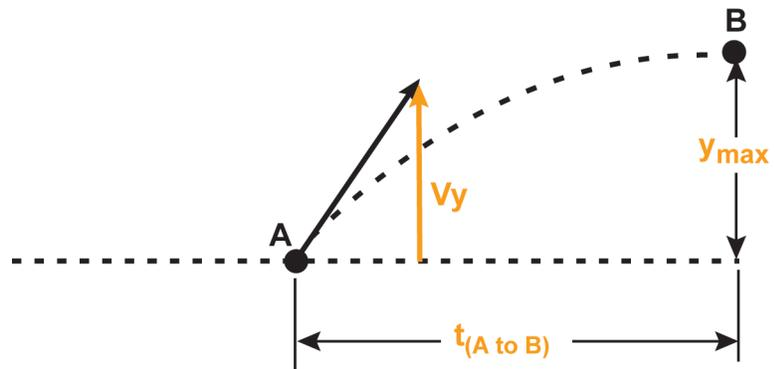

Figure 18
- 3. Figure 18 shows the data needed to find the maximum height that the ball reaches. The time $t_{(A\ to\ B)}$ is one half of the time from point A to point C. Enter $t_{(A\ to\ B)}$ in Data Table 7.